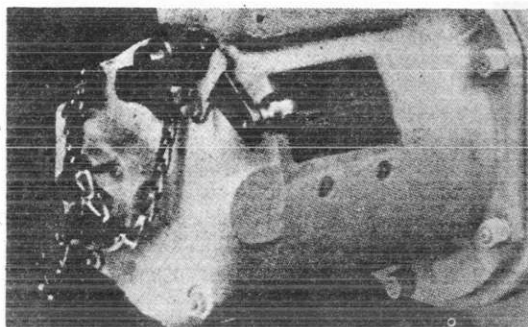

FIGURE 1.—General Electric Motor.
a. Determine the kind of motor on the equipment. This can be done by comparison of the motor with the photographs in figures 1 and 2.